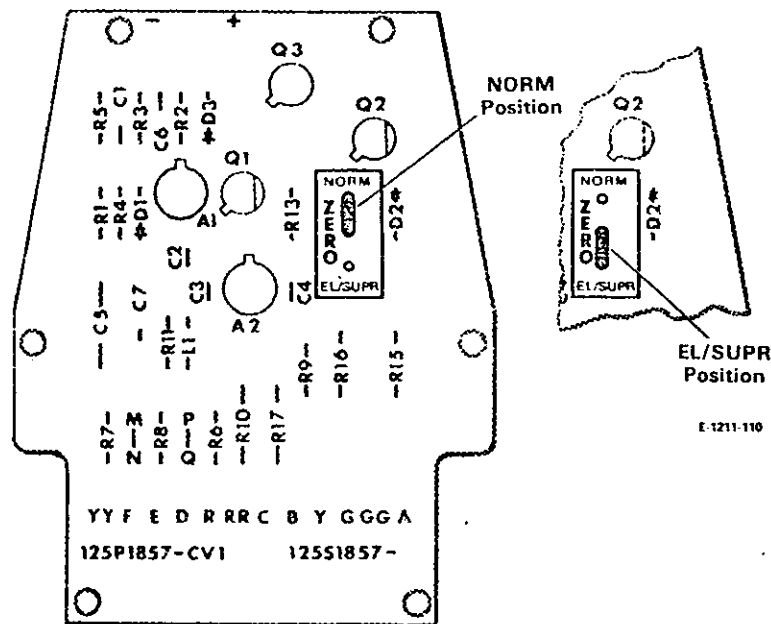

Figure 2. Location of Zero Jumper
12. Place ZERO jumper in NORM position, Figure 2.
A zero jumper is located on the circuit board, Figure 2. The **NORM** position is for zero based calibration and increases the sensitivity of the external **ZERO** adjustment. The jumper must be moved to the **EL/SUPR** position for some elevated, suppressed, and center zero calibrations. Refer to **1.4 Specifications**, for ranges available in both the **NORM** and **EL/SUPR** positions. Adjustments to trim an existing calibration can be made using the **SPAN** and **ZERO** adjustments located on the outside of the housing.
- Place ZERO jumper in **NORM** position, Figure 2.
2. Place ZERO jumper in NORM position, Figure 2.
- Place **ZERO** jumper in **NORM** position, Figure 2.